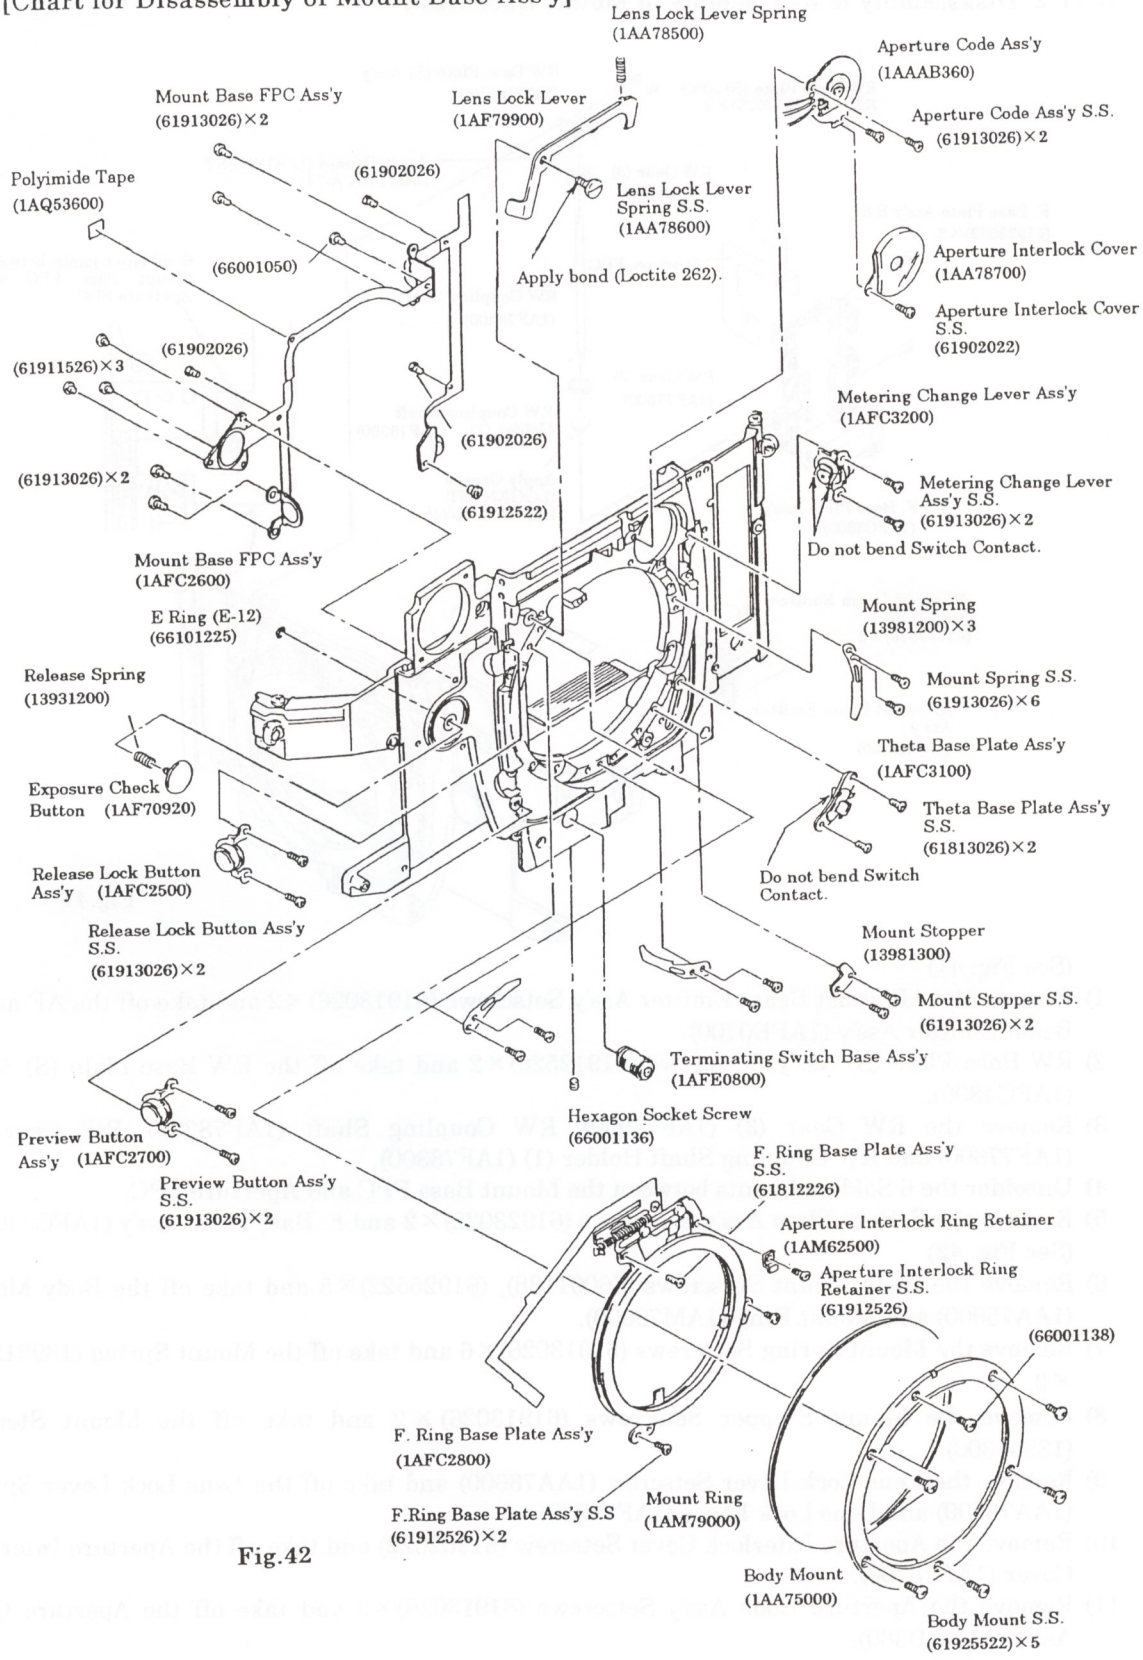

Fig. 42
- 2) RW Base Plate (S) Ass'y Setscrews (61912526) × 2 and take off the RW Base Plate (S) Ass'y (1AFC4800).
- 3) Remove the RW Gear (3) (1AF77900), RW Coupling Shaft (1AF78200), RW Gear (2) (1AF77800) and RW Coupling Shaft Holder (1) (1AF78300).
- 5) Remove the F. Base Plate Ass'y Setscrews (61923022) × 2 and F. Base Plate Ass'y (1AFC3300). (See Fig. 42)
(See Fig. 42)